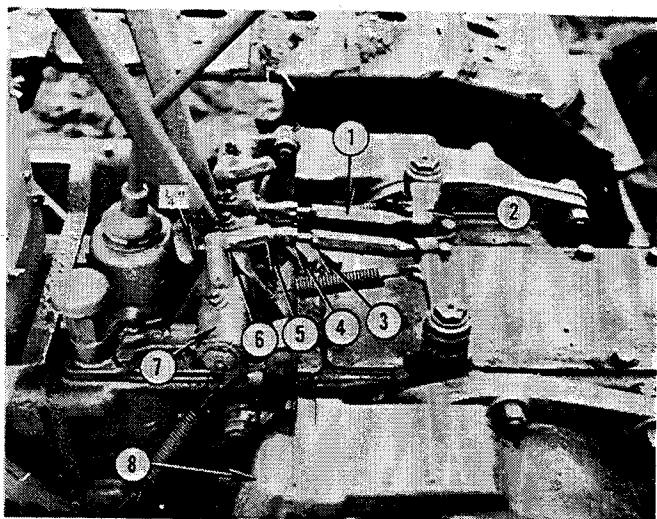

Fig. 4 — STEERING LINKAGE ADJUSTMENT
Adjust steering clutch linkage, No. 1, Fig. 4, to provide for 5/8 to 7/8 inch lever free travel measured at instrument panel height.
To adjust free travel, loosen locknut, No. 3, Fig. 4, and shorten or lengthen steering clutch control linkage by turning adjustor accordingly. Secure adjustor with locknut.
3. With steering lever held in the exact position outlined in step 2, adjust the brake lever "adjustor" to provide for 1/4" clearance between the "adjustor" and pick-up lug on steering lever. See Fig. 4. Use a 1/4" gauge. A 1/4" thick end wrench may be used as a gauge.